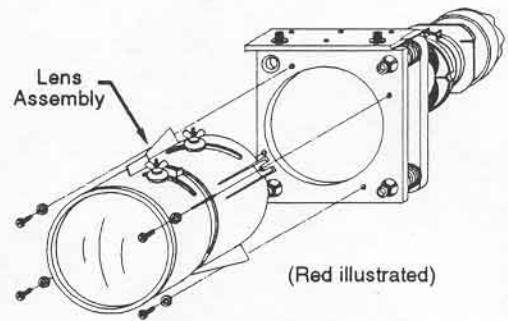

Figure 5-24. Lens Removal
- d) Remove the 4 hex head screws (and washers) which secure the lens to the lens mounting plate. See Figure 5-24.